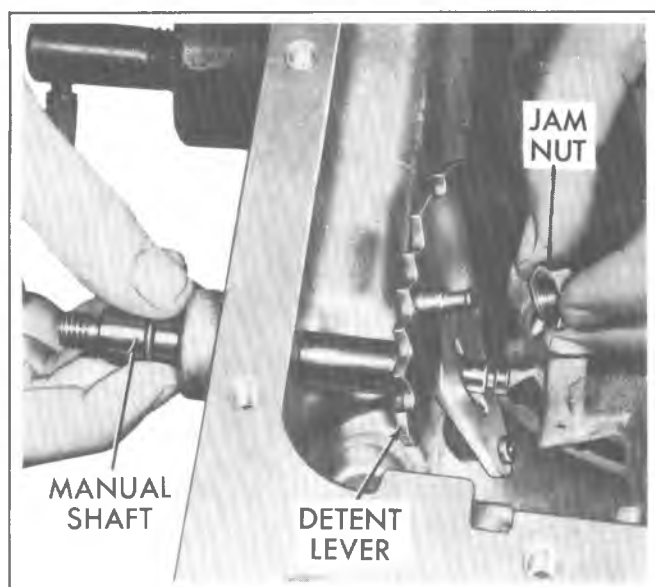

Fig. 7A-22C--Removing Detent Lever and Jam Nut from Manual Shaft
3. Remove manual shaft and jam nut from case (Fig. 7A-22C). Do not lose jam nut as it becomes free from manual shaft.